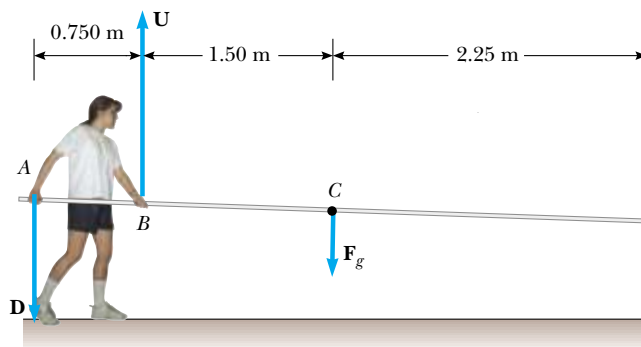

Figure P12.25
25. A vaulter holds a 29.4-N pole in equilibrium by exerting an upward force \mathbf{U} with her leading hand and a downward force \mathbf{D} with her trailing hand, as shown in Figure P12.25. Point C is the center of gravity of the pole. What are the magnitudes of \mathbf{U} and \mathbf{D} ?